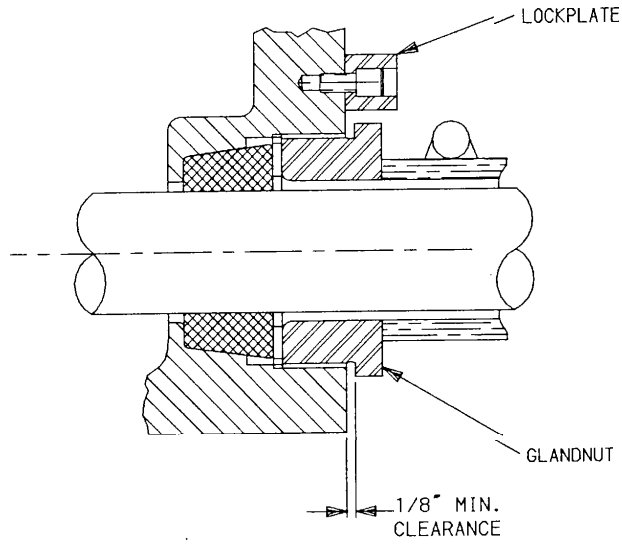
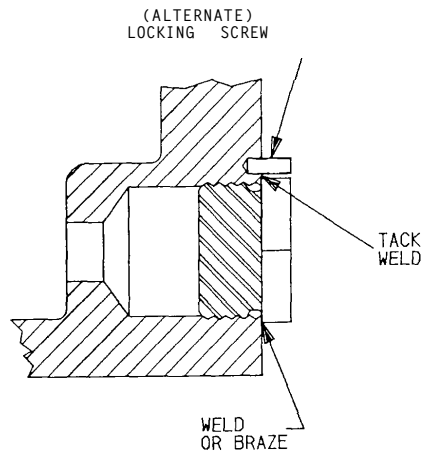

FIGURE 2
FIGURE 3
- (WEEKLY) 1. () All lead entrances (packing glands) are assembled so that the cable jacket penetrates into the enclosure and when tightened, a 1/8" minimum clearance remains between the packing nut and stuffing box (Figure 2).
- (WEEKLY) 2. () All packing nuts and stuffing boxes are secured from loosening by a locking screw, wire, or other means (Figure 2). All unused lead entrances are closed with metal plugs which are secured in place by spot welding, brazing, or equivalent (Figure 3).
- (WEEKLY) 3. () Headlight glands are sealed and ASSEMBLED SO THAT THE CABLE JACKET PENETRATES INTO THE ENCLOSURE AND WHEN TIGHTENED, A 1/8 INCH MINIMUM CLEARANCE REMAINS BETWEEN PACKING NUT AND THE STUFFING BOX. (Figure 2)
- (WEEKLY) 4. () All unused lead entrances are closed with metal plugs which are secured in place by spot welding, brazing, or equivalent (Figure 3).
- (WEEKLY) 2. () "Alternator Housing Glands" are sealed and ASSEMBLED SO THAT THE CABLE JACKET PENETRATES INTO THE ENCLOSURE AND WHEN TIGHTENED, A 1/8 INCH MINIMUM CLEARANCE REMAINS BETWEEN PACKING NUT AND THE STUFFING BOX. (Figure 2)